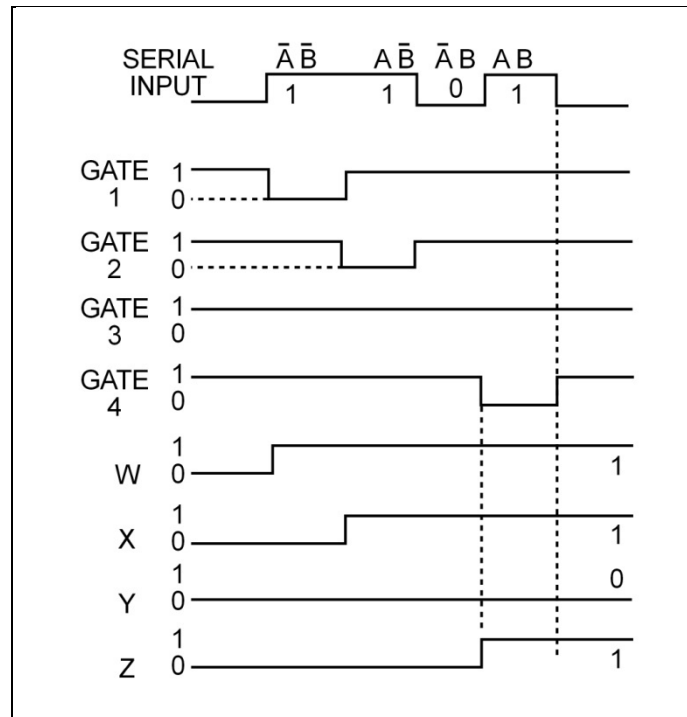
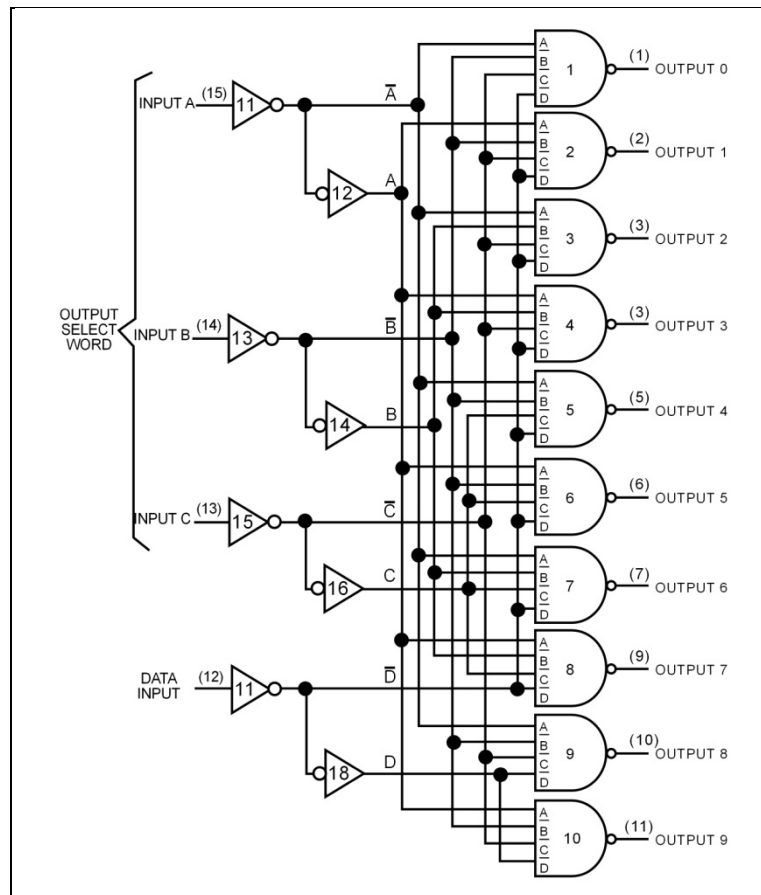

Fig. 3.6-10(b) De-Multiplexer Waveforms in Serial-to-Parallel Converter
Fig. 3.6-11 7442 Decoder used as 8-Output Data Distributor
The data distributor circuit in Fig. 3.6-10(b) shows that it is essentially a decoder where the decoded gates all have a common input. Because of this particular configuration, a standard MSI decoder circuit can often be used as a data distributor. Fig. 3.6-11 shows how a 7442 BCD to decimal decoder can be used as an 8-output data distributor. When this circuit is used as a data distributor, inputs-A, B, and C are used to select the desired output. These three inputs will enable one of the Gates 1-8. The data input is applied to the D-input of the circuit. Note that data input is inverted by inverter 17 and then applied to Gates 1-8.
3. In Fig. 3.6-11 input code (DCBA) \_\_\_\_\_ must be applied to connect the input to the output of Gate-6.